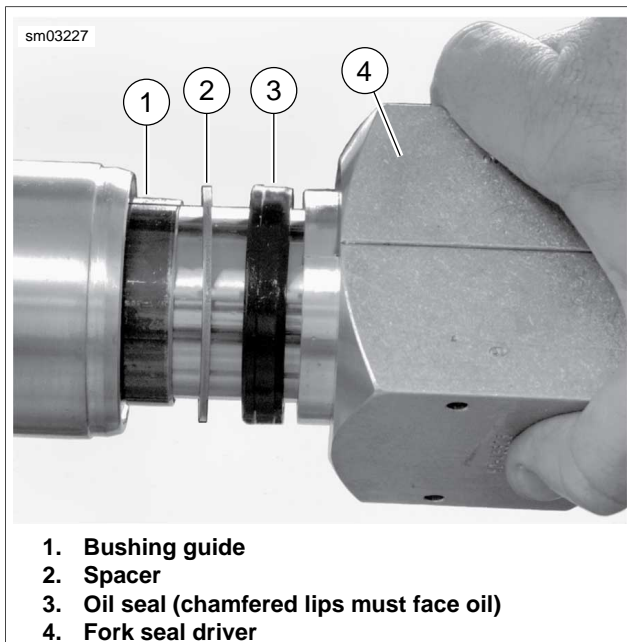

Figure 2-87. Assembled Fork Seal Driver
10. See Figure 2-87. Holding fork seal driver (4) together, tap oil seal (3), spacer (2) and bushing guide (1) into slider bore.